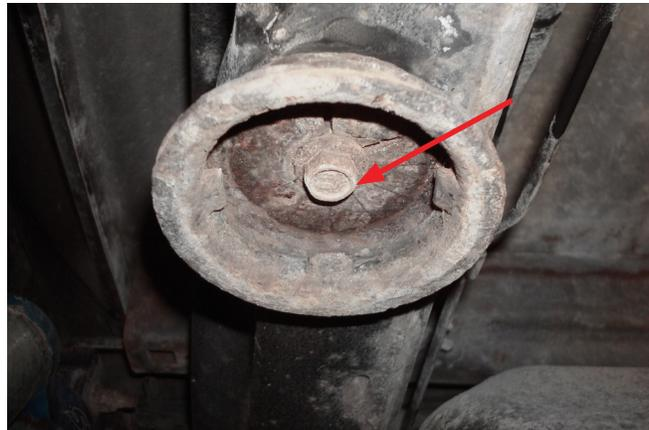

Fig. 5
4. Pull the jounce bumper out of the cup and unbolt the cup from the frame (Fig. 5).